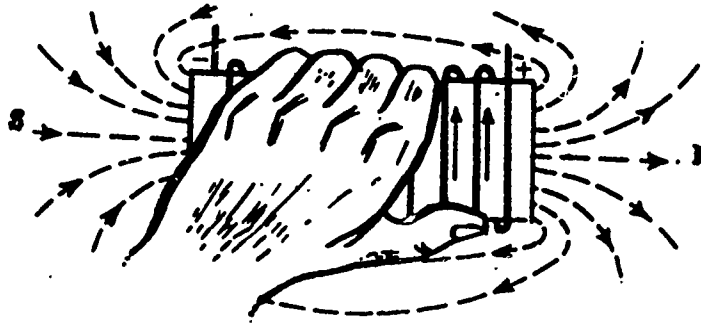

Figure 19.
Because the direction of the magnetic field (polarity) of a coil depends on the direction of the current flow through the coil, it is possible to figure out which end of the coil is the north pole. A simple rule was made to do this. This rule is referred to as the left hand rule. This rule is as follows: Grasp the coil in your left hand with your fingers pointing in the direction of current flow through the coil windings, as shown in figure 19 below. Your thumb will point toward the north pole of the coil. Care must be taken to be sure the fingers point in the direction of current flow through the coil windings.
1. In using the left hand rule as in figure 19 above, your _____ point in the direction of current flow, and your _____ points toward the north pole of the coil.